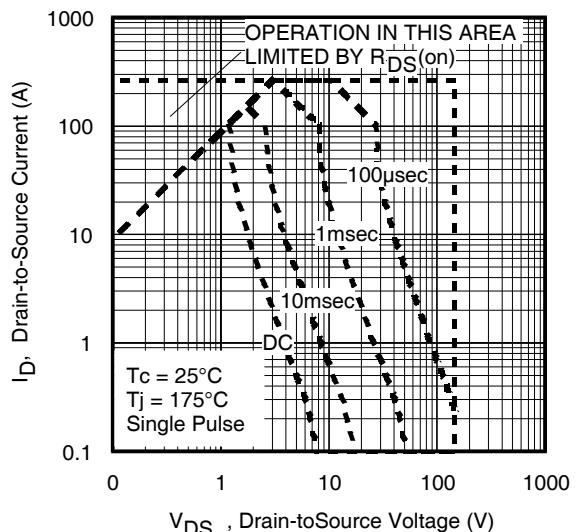

Fig11. Maximum Safe Operating Area
- $Z_{thJC}(D, t_{av})$  = Transient thermal resistance, see figure 11)